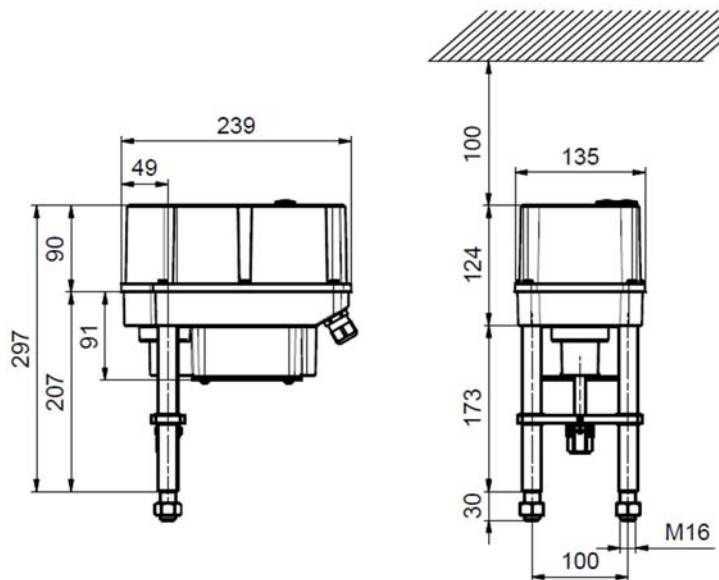

Figure 1: Free space required to remove the hood
- The actuators must be installed with sufficient clearance to remove the hood (Figure 1).